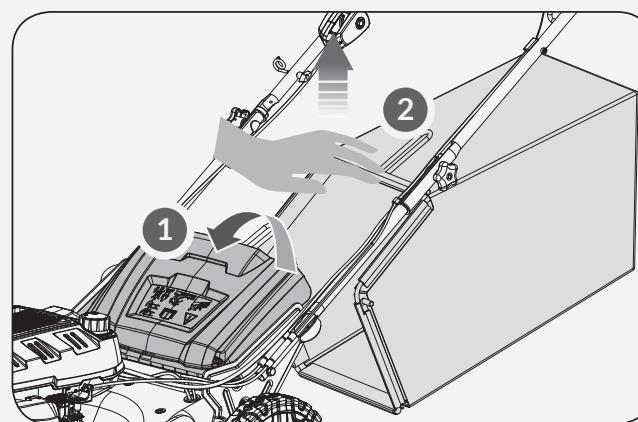

Figure 18
1. Flip the rear discharge door up. (See **Figure 18, illustration 1**)
2. Lift the grass catcher with the frame handle. (See **Figure 18, illustration 2**)